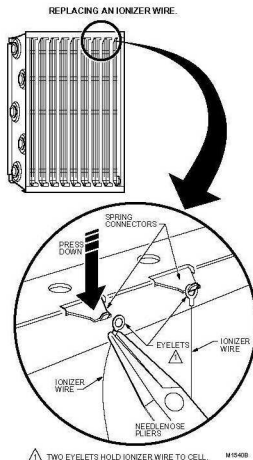

Fig. 8. Replacing ionizer wire.
1. Hook eyelet on one end of wire over spring connector on one end of cell. See Fig. 8. Be careful to avoid damaging spring connector or another cell part.
2. Hold opposite eyelet with needlenose pliers and stretch wire the length of the cell. Depress the opposite spring connector and hook the eyelet over it. See Fig. 8.